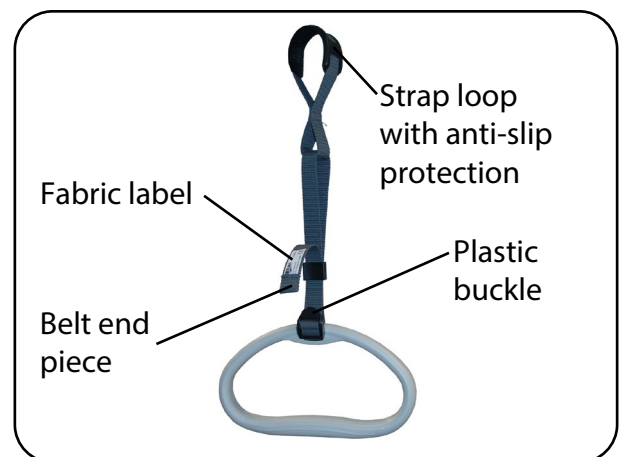

Fig. 6.3.03 – Grab handle with strap
5. Adjust the height of the grab handle to the patient's individual needs. The strap can be adjusted in a range of 20cm using a plastic buckle (Fig. 6.3.03). When doing so, make sure that no weight is applied to the handle. Make sure that the strap's end piece is at least 3 cm above the plastic buckle (Fig. 6.3.03).